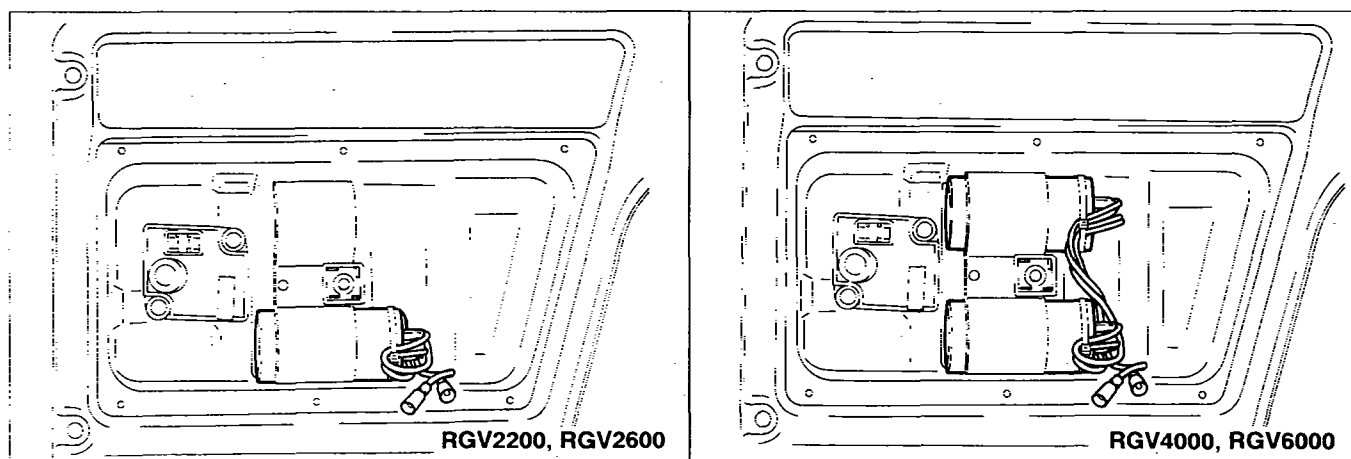

Fig. 9-6
■ Use a "Dr. Robin" in capacitance meter mode to check the capacity of condensers. (See Fig.9-6).